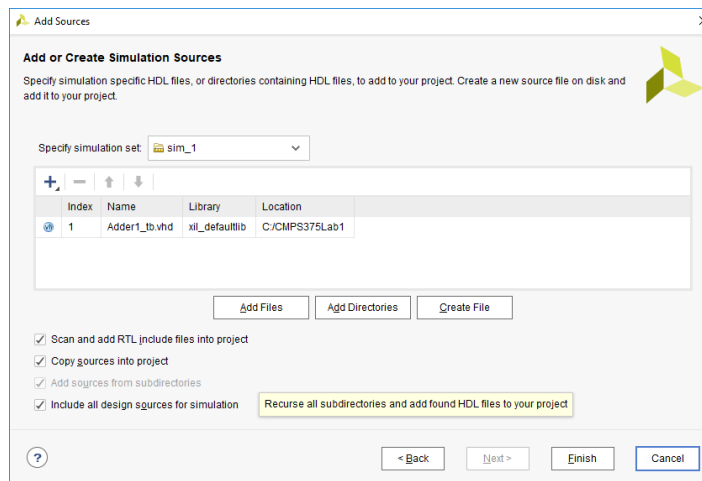

Figure 14. Add Simulation Sources: Adder1_tb.vhd
- b. In the *Add or Create Simulation Sources* form as shown in Figure 14, click the *Add File* button, then browse directory, select **Adder1_tb.vhd**. Then, click *Finish*.